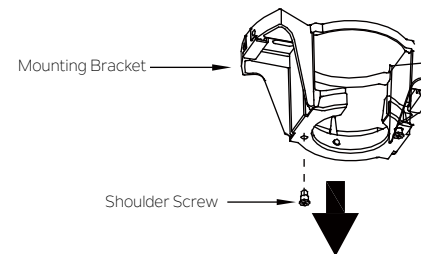

Fig.15
Step 1. Remove one of the two shoulder screws shoulder screw without fully removing it. (Fig. 15)